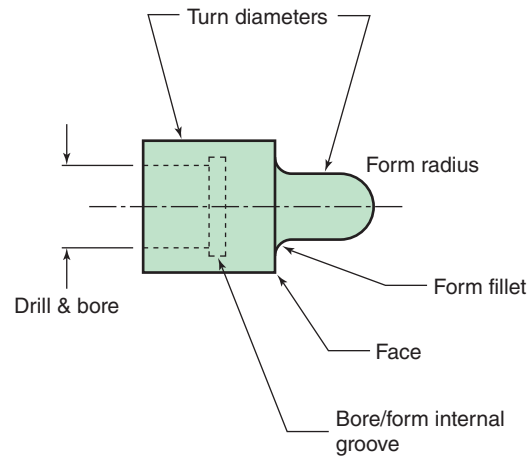

Figure 11-168 The operations for Problem 4.
4. Note, the round nose pin would probably be machined with one lathe tool. The face, turn, and fillet radius could be made with a turning tool featuring a nose radius of 0.25 in., which would form the fillet as it turns and faces (Fig. 11-168).